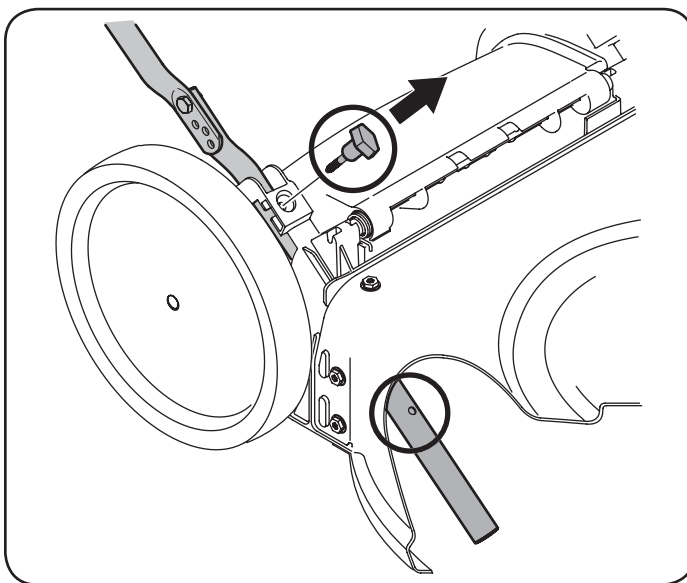
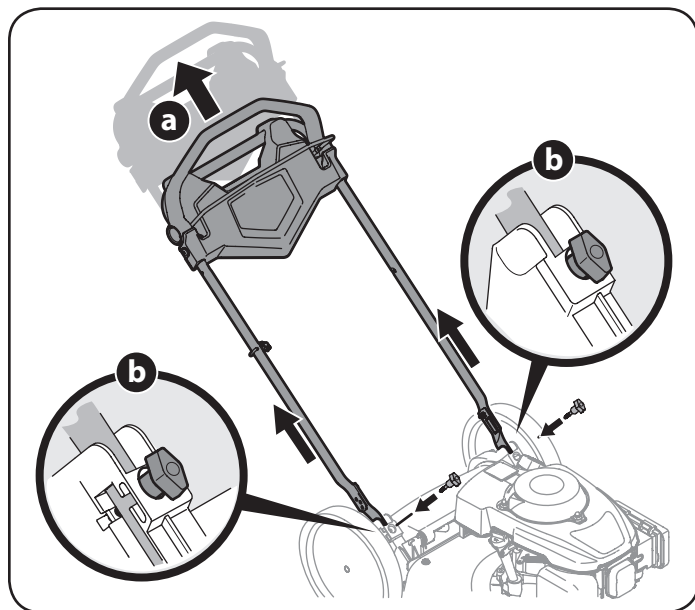

Figure 3
Figure 4
2. Remove T-bolts from the handle brackets as shown in Figure 3.
- Pull upward on the handle until holes in lower handle (shown in Figure 3 deck cutaway) line up with holes in handle bracket. See Figure 4.
- Insert the T-bolts removed in step earlier through the handle brackets and lower handle and tighten securely to secure the handle in place. See Figure 4.